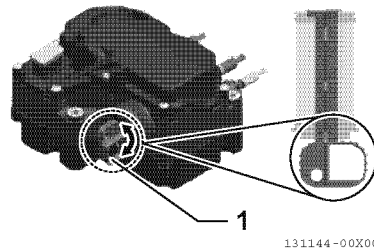

Fig.25-44
- 6 - Open the hinge part of the bent filter element drawing-out tool (1, Fig.25-44) to the shape and position shown in Fig.25-44.